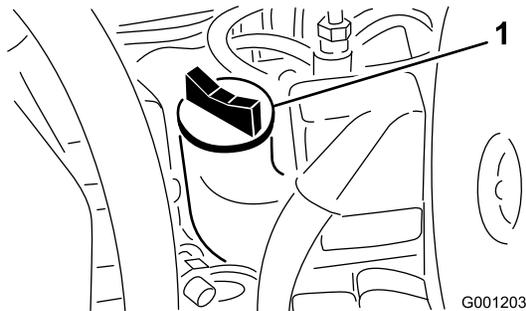

Figure 23
3. If the oil level is below the Full mark, remove the fill cap (Figure 23) and add oil until the level reaches the Full mark on the dipstick. **Do not overfill.**